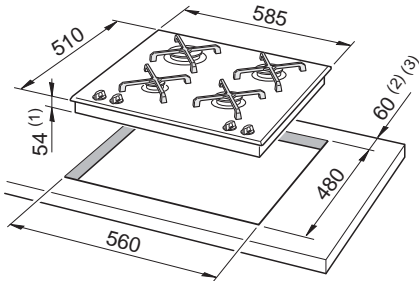

Figure 3a
The installation shall comply with the dimensions in Figures 3a, 3b or 3c and 4a, 4b or 4c, bearing in mind that:
- having the cooktop spaced away from the wall (see figures 3a, 3b or 3c and 4a, 4b or 4c);
- Cut the unit according to the dimensions in fig. 3a or 3b.